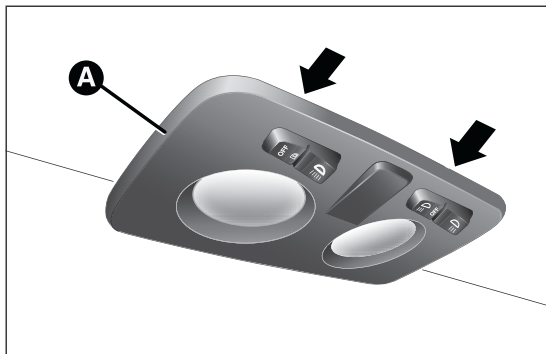
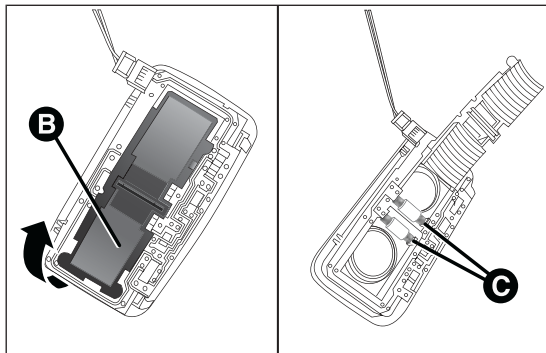

fig. 139
fig. 140
- ☐ remove the roof light A fig. 139 working at the points indicated by the arrows;
- ☐ open the flap B fig. 140 and replace the bulbs C releasing them from the side contacts. Make sure that the new bulbs are correctly secured between the contacts;
- ☐ reclose the flap B fig. 140 and fix the roof light A fig. 139 in its housing making sure that it is locked.